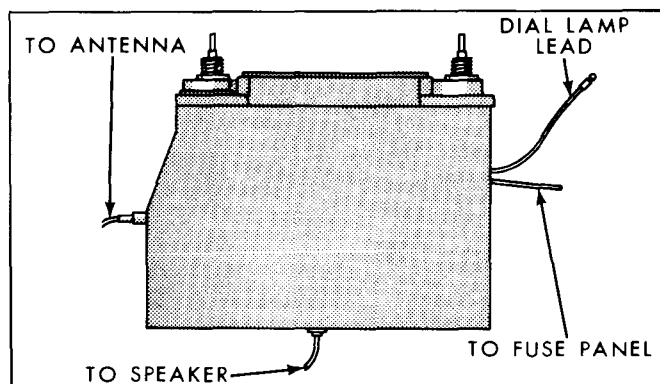

Fig. 12-4—Radio Wiring Connections—(60C-7825)
3. Disconnect the antenna lead-in cable and the speaker plug. See figure 12-4.